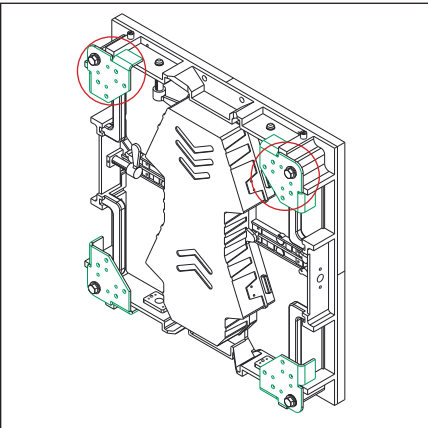

Figure 11: Install Converter Plates
16. Continue attaching panels up to the top row. Use M10 hardware to attach a steel converter plate on each of the upper corners in the top row before installing the panels. Refer to **Figure 11**.